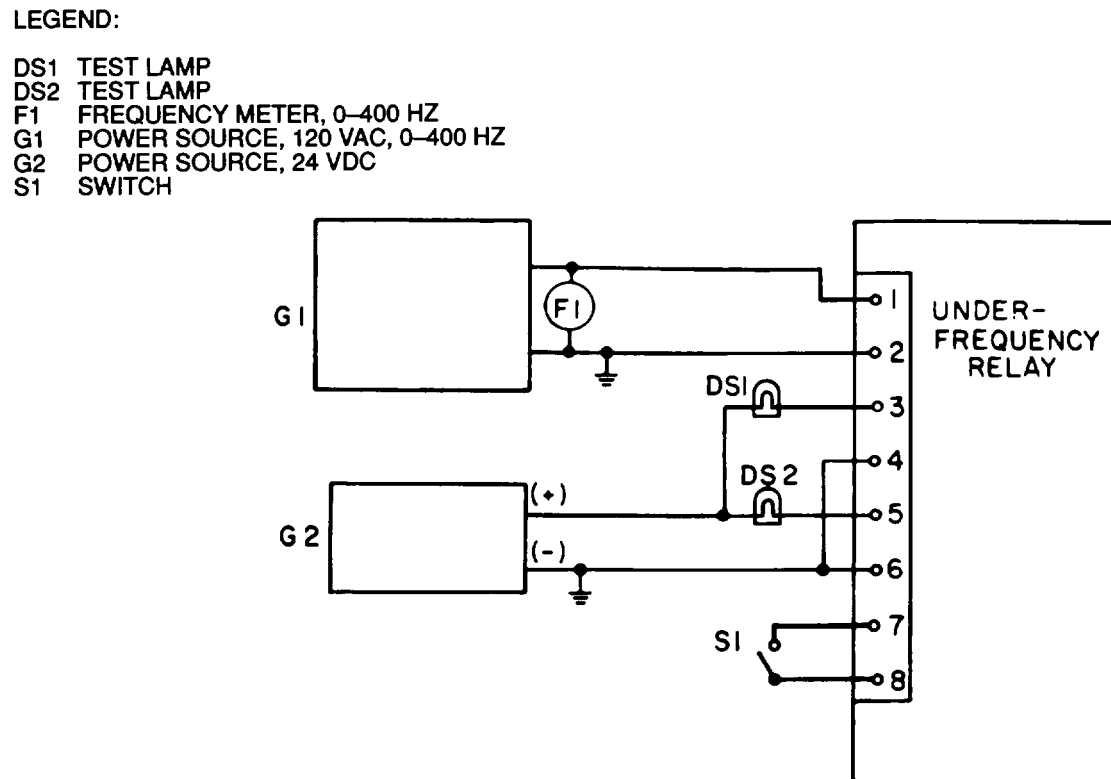

Figure 3-125. Under Frequency Relay Test Circuit
- (9) Test under frequency relay as follows:
- (a) Install relay in test circuit shown in figure 3-125.